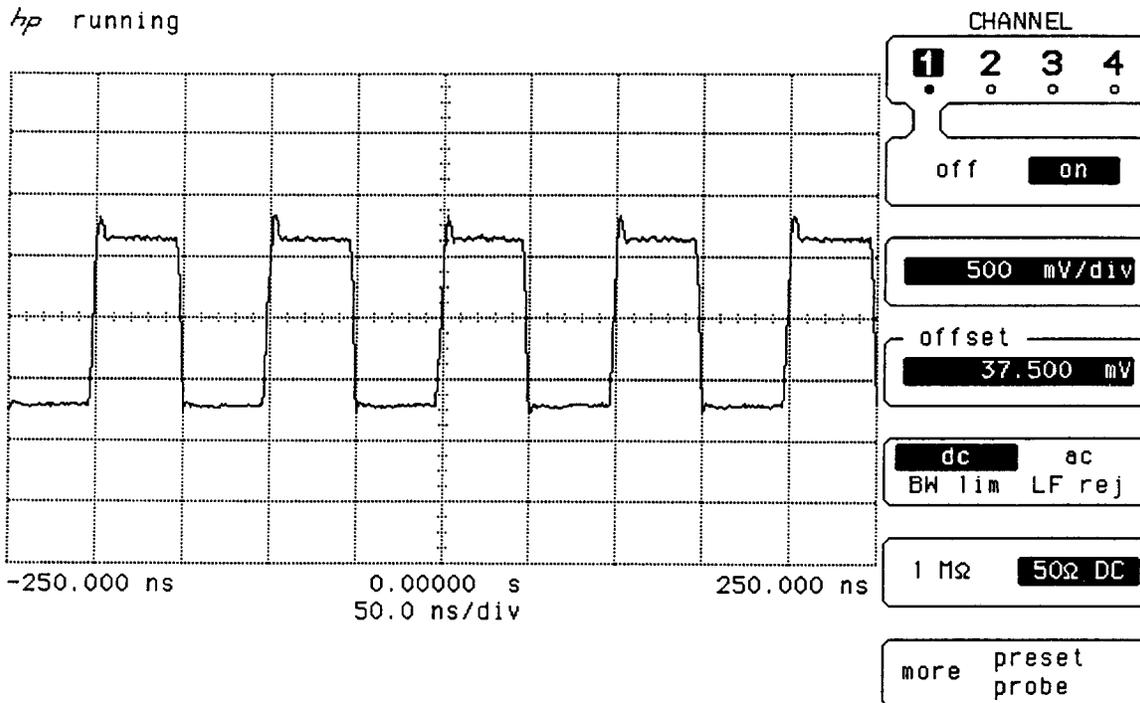

Figure 4-4. External Timebase Reference Signal (Voltage will be 1/2 magnitude for Option 031.)
**W Check the external reference timebase output signal by connecting an oscilloscope to the Reference Out rear panel connector, and verifying that a signal similar to Figure 4-4 is displayed on the oscilloscope's screen.**